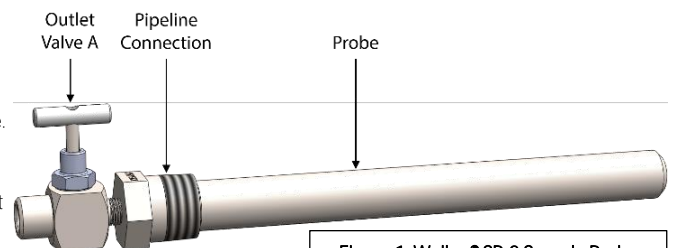

Figure 1: Welker® SP-2 Sample Probe
1. Ensure that outlet valve A is closed (*Figure 1*).
4. Unscrew outlet valve A (*Figure 1*).
7. Reinstall outlet valve A to the SP-2 sample outlet (*Figure 1*).